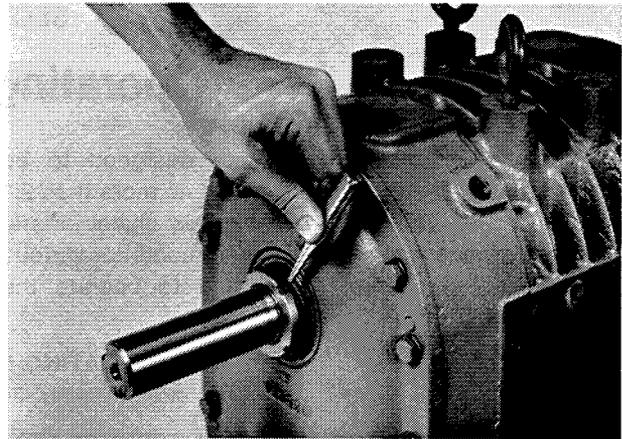

FIGURE 35
- jj. Choose the lock washer tang that best aligns with a slot in the lock nut (22). Bend the tang into the lock nut to prevent lock nut from backing off (see Fig. 35).
- kk. Install oil gage plug (43) in gear end cover.
- ll. Install two oil breather caps (8) in gear end cover.